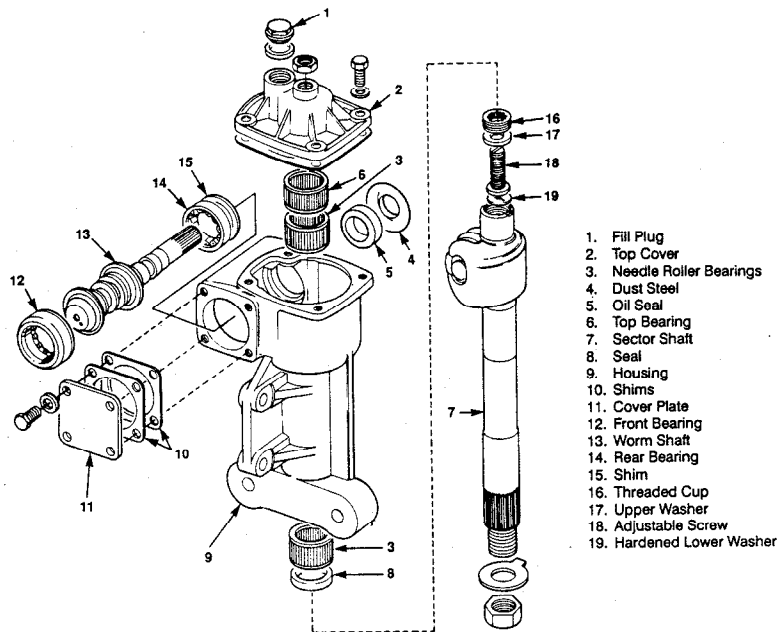

Figure 3 - Steering Box Exploded View
15. The special tools shown in Figure 1 are to be used during the reassembly of the sector shaft, as detailed in Paras 18 to 20. Proceed with the modification as follows, with reference to Table 2 for repair parts and Figure 3 for the component identification.
- c. Clean all components and fit the hardened washer, adjuster screw, upper washer and new securing plug (Item 2), as shown in Figure 3.
- e. Fit the hardened washer, adjuster screw, upper washer and new securing plug (Item 2), as shown in Figure 3.